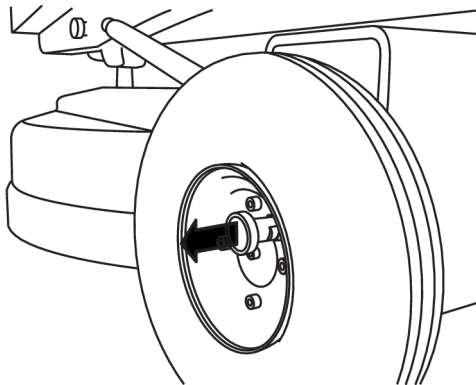

Figure 4-3. Decouple the wheels
1. Decouple the wheels by pulling the locking pin straight out, see Figure 4-3, page 19.
Rotate the crank on the front of the support wheel to adjust the height so the machine tilts and the grinding head hangs completely free of the surface. The grinder can be moved by manually pushing it front of you. Make sure the wheel lock is released according to Figure 4-3, page 19.